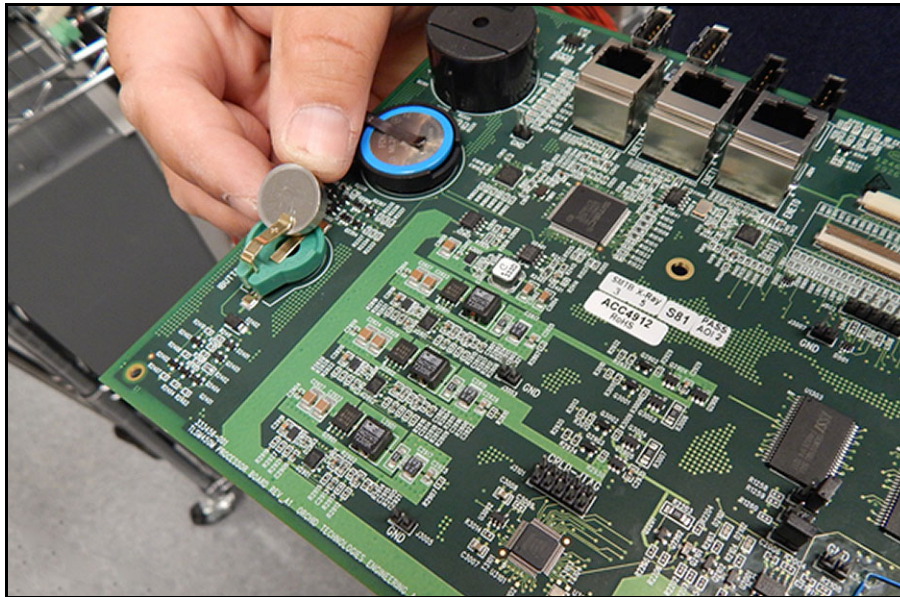
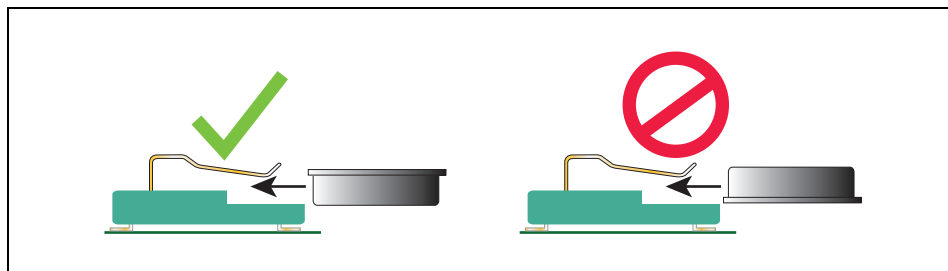

Figure 13. Locating TLS-450PLUS CPU Board iButton
Figure 14. Install iButton Flange Facing Up
18. Locate the iButton on the old TLS-450PLUS CPU board. Remove the iButton from the old CPU board and install it in the empty socket on the new TLS-450PLUS CPU board (see Figure 13). Make sure the flanged side of the iButton is facing up in its socket (see Figure 14).